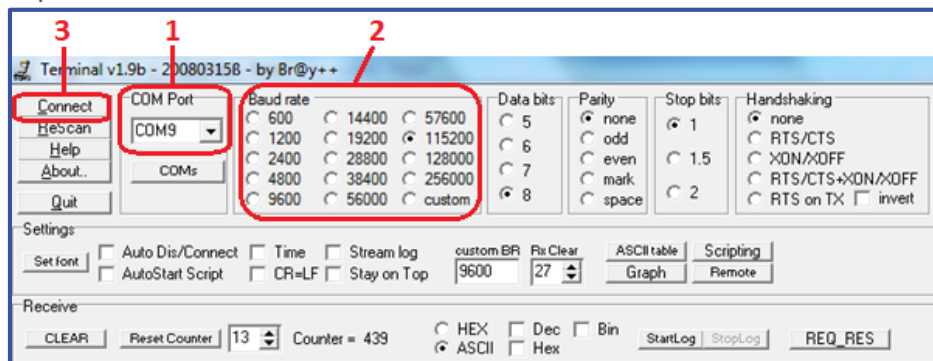

Figure 3
- Open up the terminal program mentioned from earlier and locate the setup port which will appear as a COM port. Select the correct COM port from the drop down menu as shown in figure 3 box 1. The correct COM port should be the last one on the list from the drop down menu.
The default BAUD rate for setup is 115200 and the BAUD rate for info is 19200. These can be selected from the pre-set figures shown in figure 3 box 2 above. *Note - A BAUD is a unit used to express the speed of transmission of electronic signals, corresponding to one information unit or event per second.*
- Now click connect, highlighted in figure 3 box 3 above.